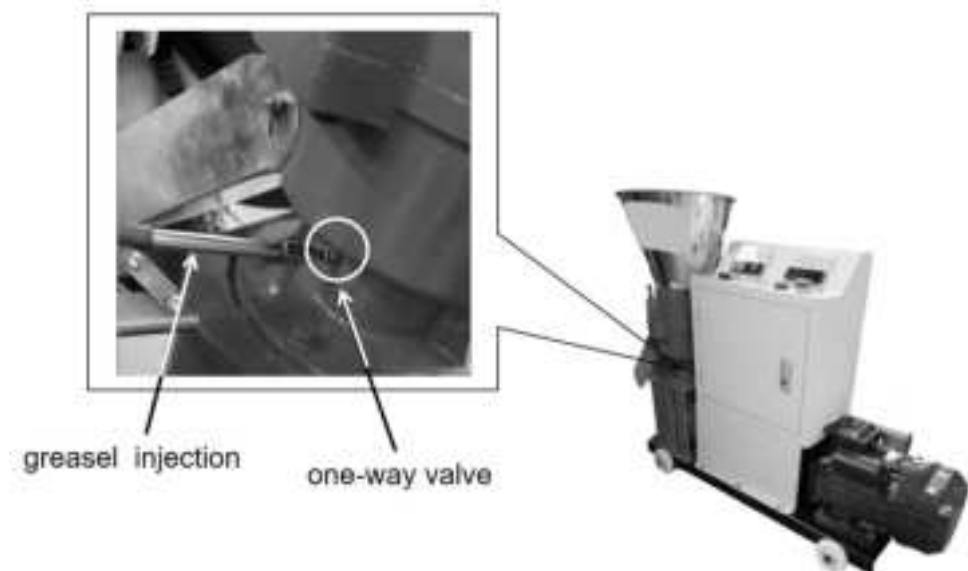

Figure 7
5. Regularly check the tightness of the belt, replace the oil seal in a timely manner if there is oil leakage in the gearbox, check if the bearings inside the machine head are short of oil, and add grease every 15 days to increase the service life of the bearings. The refueling position and method are shown in Figure 7.